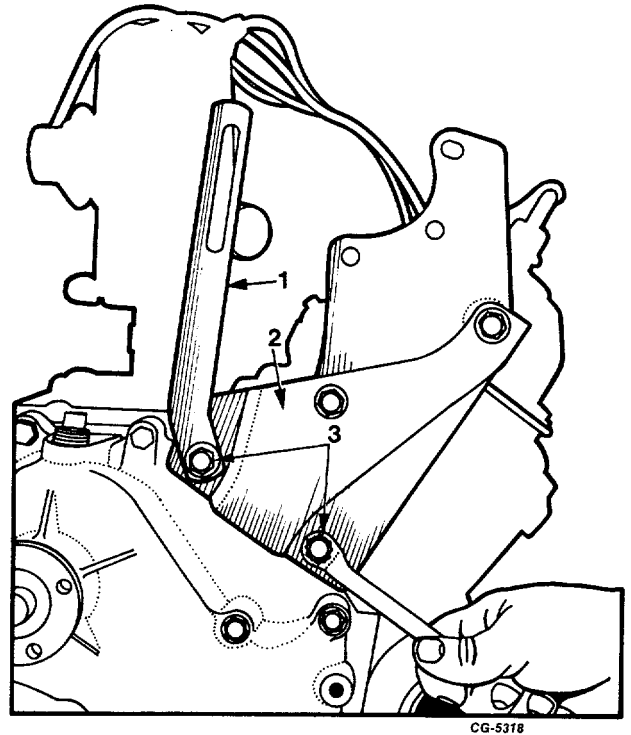

Fig. 25 Removing Power Steering Bracket and Strap
21. Remove power steering bracket with adjusting strap, Figure 25.